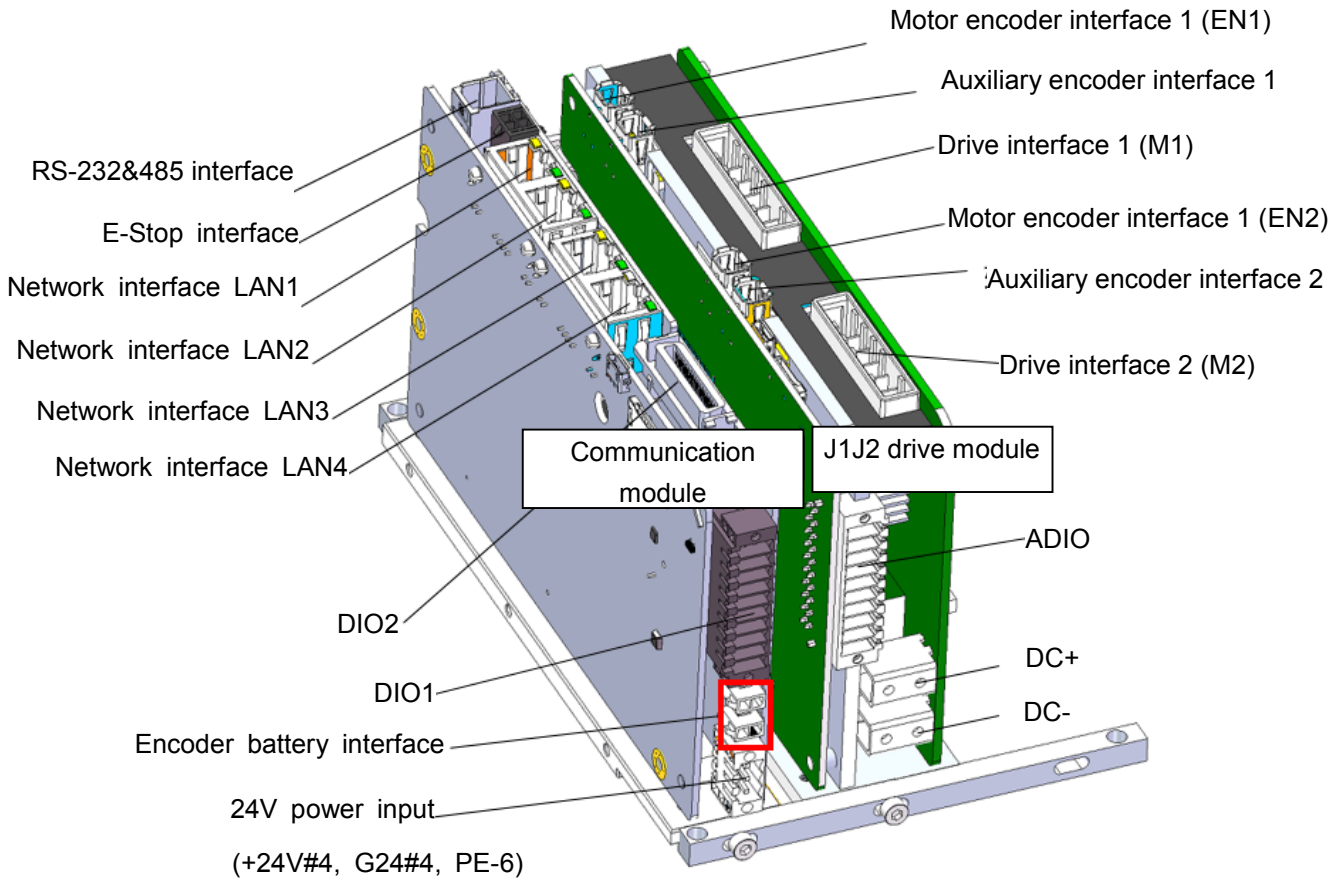

Figure 5-15 Position of encoder battery connector
Step 3 Find the unconnected encoder interface on the controller assembly, and insert a new encoder battery. As shown in Figure 5-15, there are two encoder battery interfaces.